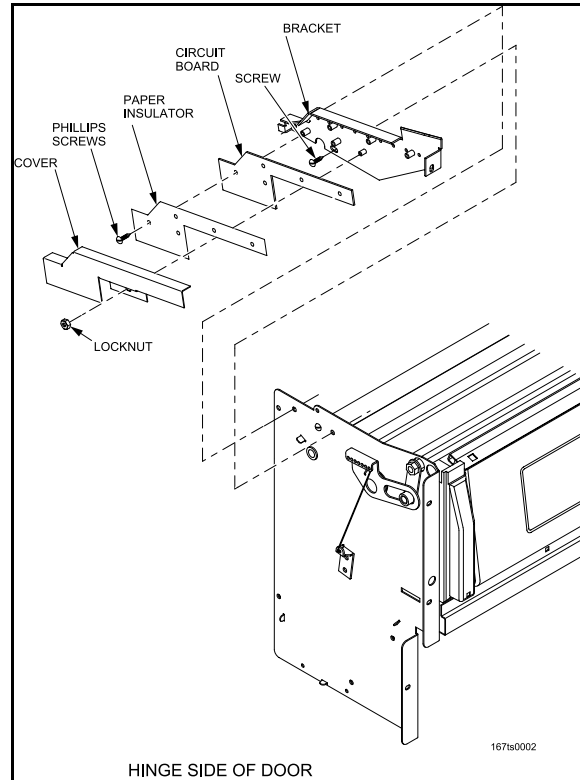

Figure 23
2. Remove 1 locknut, and remove the receiver cover (figure 23). Save for later use.